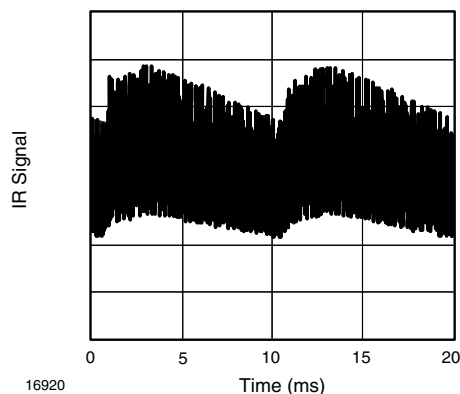

Fig. 14 - IR Disturbance from Fluorescent Lamp with Low Modulation
- Modulated IR pattern from common fluorescent lamps (example of noise pattern is shown in fig. 14 or fig. 15)